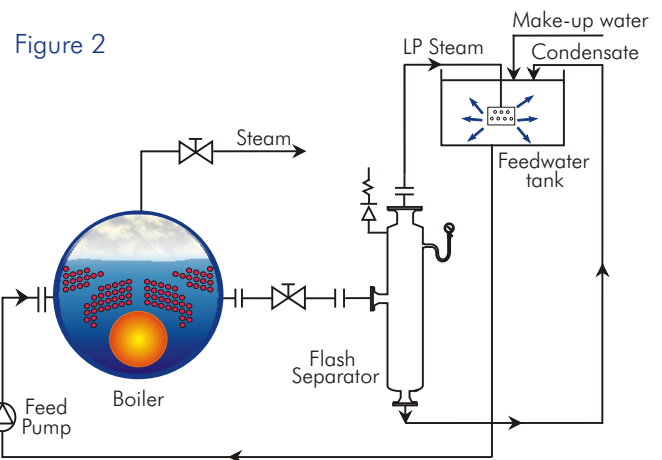

Figure 2
- Even if no use at all can be found for low pressure flash steam, it can always be used to heat feedwater thus reducing fuel consumption. See Fig 2 below.